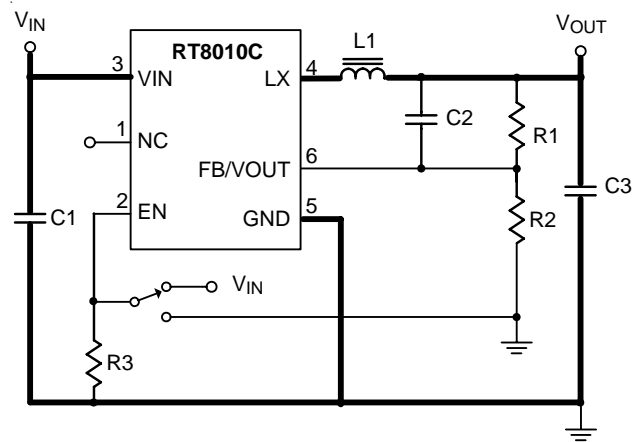

Figure 5. EVB Schematic
- ▶ For the main current paths as indicated in bold lines in Figure 5, keep these traces short and wide.